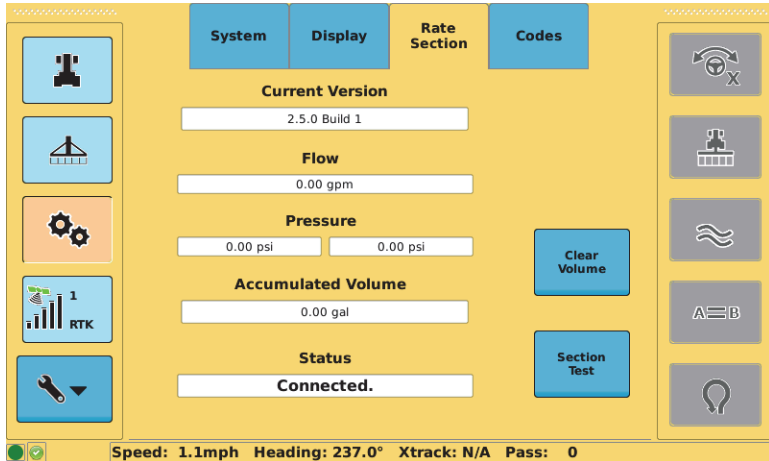

Figure 7-7: (Tools) Rate Section screen
Regardless of whether you have AC110 connected or not the Rate Section screen under Tools (Figure 7-7 below) is always available. You use this screen to:
1. Press the **Tools** screen button then press the **Rate Section** tab at the top of the screen. The Rate Section screen appears (see Figure 7-7).
1. Press the **Tools** screen button then press the **Rate Section** tab at the top of the screen. The Rate Section screen appears (see Figure 7-7 on the previous page).